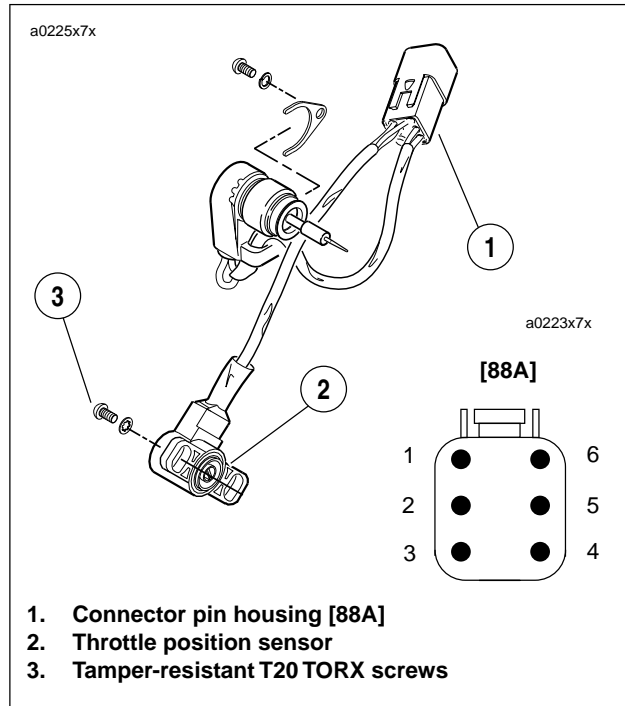

Figure 7-10. Throttle Position Sensor
See Figure 7-10. The throttle position sensor voltage determines which spark advance curve the ignition module selects. The throttle position sensor (TP Sensor) is located on the carburetor. The TP Sensor is not repairable. Replace the unit if it fails.
- f. Turn ignition switch to ON. Using a multimeter, measure voltage between pin 3 (V/W) and pin 5 (BK).
- h. Completely open and close the throttle by rotating the throttle control through its full range of motion. Wide Open Throttle (WOT) should not exceed 3.7V and reading should increase consistently as throttle is opened. If the voltage reading is erratic or the voltage reading at WOT exceeds 3.7V, see Figure 7-10 for diagnostic testing.